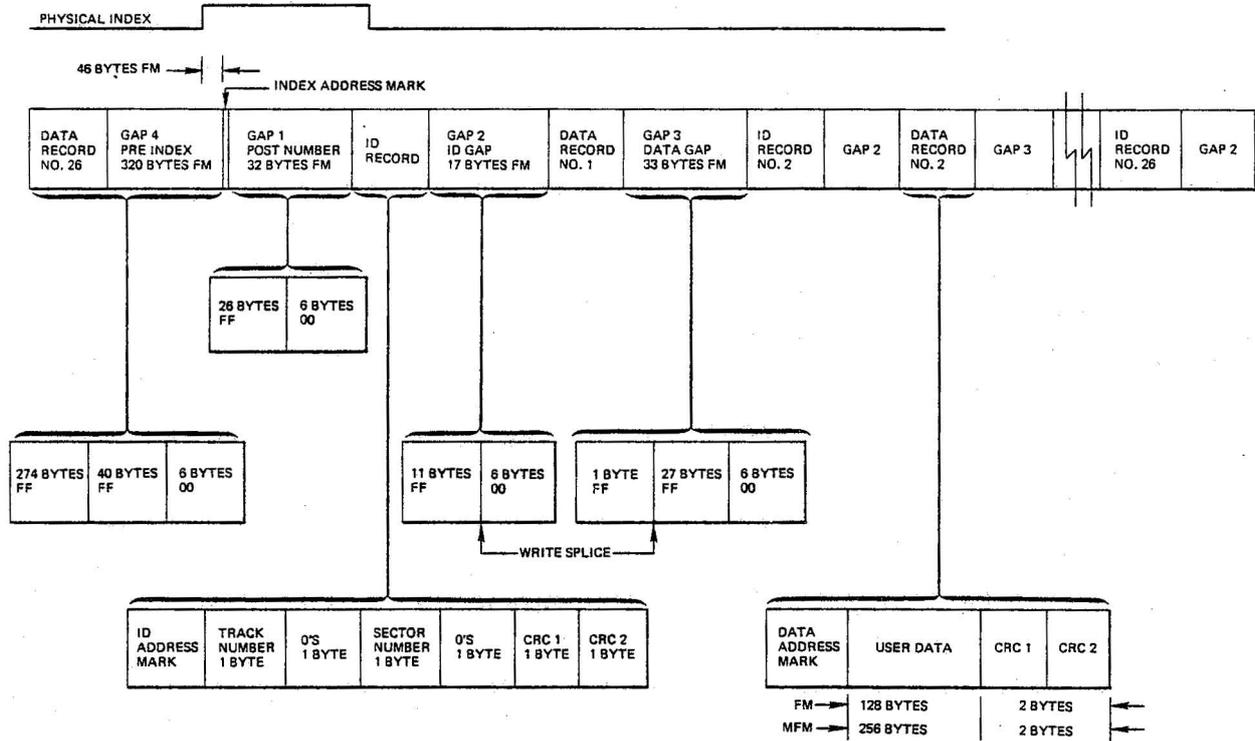

Figure 1-1. Logical Track Format
1.5.1 LOGICAL TRACK FORMAT (REFER TO FIGURE 1-1)
Each track is formatted in the above manner (refer to Figure 1-1). The sector header field of each sector contains information describing both the sector and track number. All the above fields are recorded in FM except as noted in the following sections.